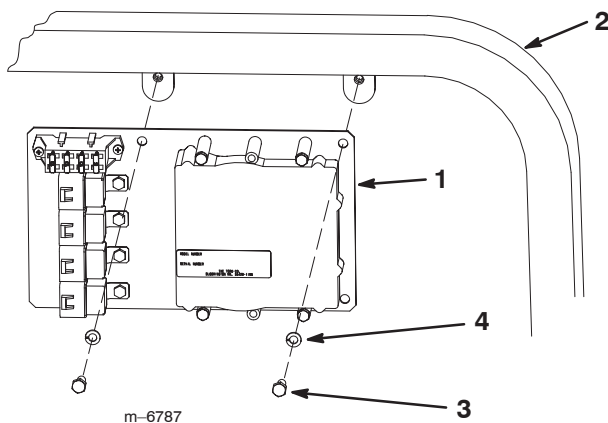

Figure 5
- For the Multi-Pro 1200 and 1250, install the mount plate using 2 bolts (5/16 x 3/4 inch) and 2 lock washers (5/16 inch) as shown in Figure 5.